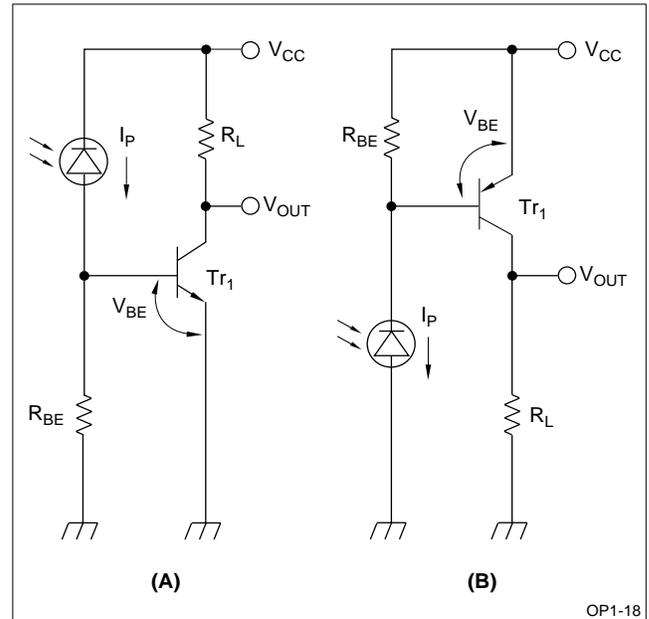

Figure 3. Photocurrent Amplifier Circuit using Transistor
Figures 3 and 4 show photocurrent amplifiers using transistors.
The circuit shown in Figure 3 are most basic combinations of a photodiode and an amplifying transistor. In the arrangement of Figure 3 (A), the photocurrent produced by the photodiode causes the transistor ( $Tr_1$ ) to decrease its output ( $V_{OUT}$ ) from high to low. In the arrangement of Figure 3 (B), the photocurrent causes the  $V_{OUT}$  to increase from low to high. Resistor  $R_{BE}$  in the circuit is effective for suppressing the influence of dark current ( $I_d$ ) and is chosen to meet the following conditions: